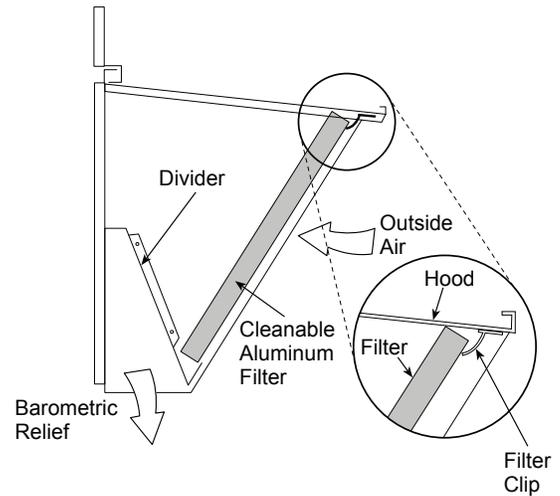

Fig. 17 – Economizer Filter Installation
5. Open the filter clips which are located underneath the hood top. Insert the aluminum filter into the bottom filter rack (hood divider). Push the filter into position past the open filter clips. Close the filter clips to lock the filter into place. See Fig. 17.